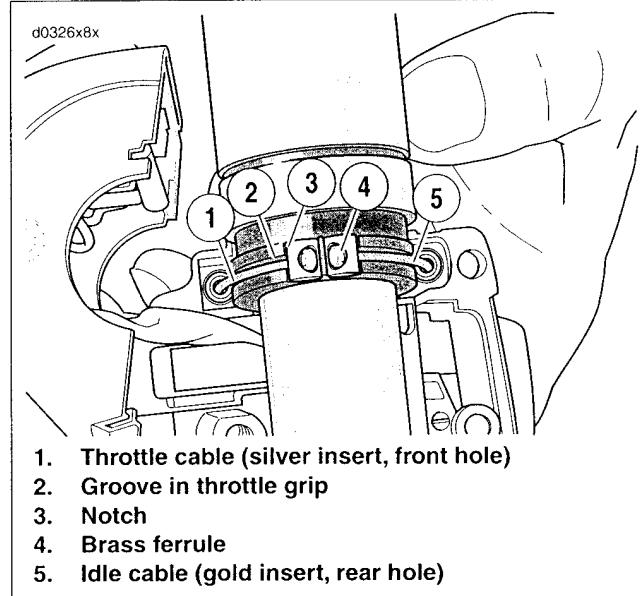

Figure 2-111. Throttle Cable Attachment
- See Figure 2-111. Pull the cables from the housing by placing a drop of oil on the retaining ring that holds the cable in the housing, then firmly pull the bent tubing portion of the cable out of the housing using a rocking motion.
- See Figure 2-111. Attach the control cable assemblies to the lower housing.